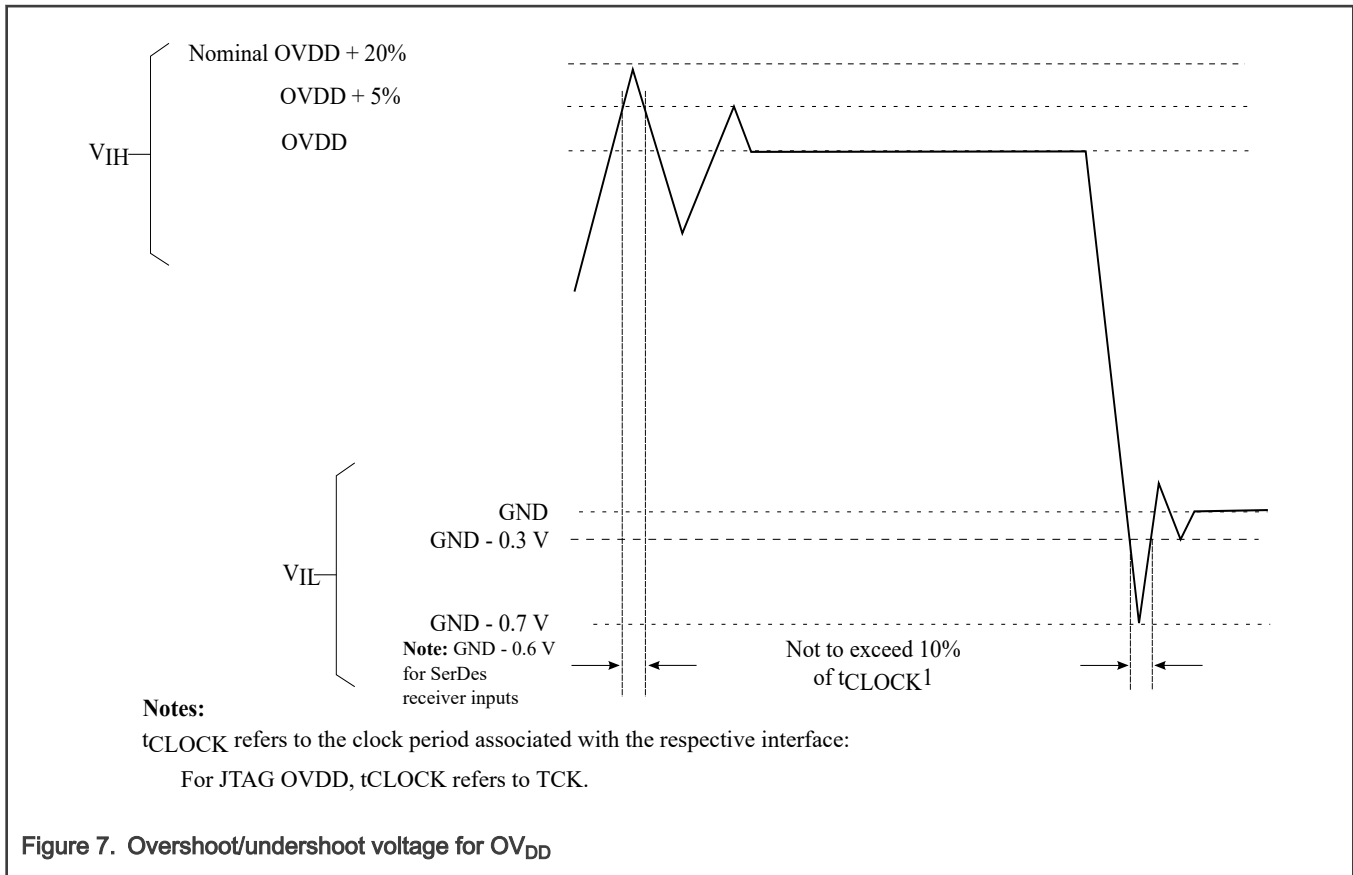

Figure 7. Overshoot/undershoot voltage for OV_{DD}
3. OV_{IN} may overshoot/undershoot to a voltage and for a maximum duration as shown in Figure 7.